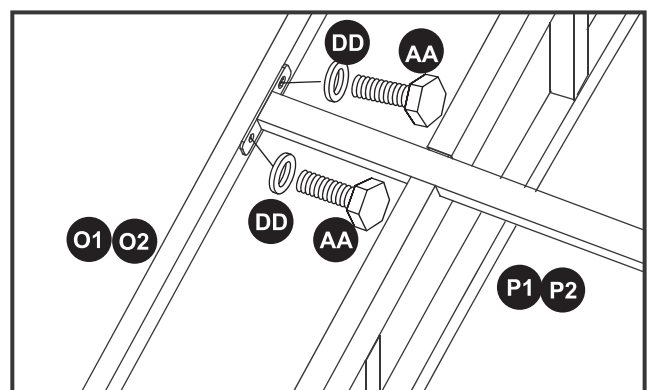

Fig.20
13.2 Attach the Strut (P1/P2) onto the Slant beam (O1/O2) with Bolts and Washers (AA/DD). See Fig.20. Repeat for all Struts (P1/P2)